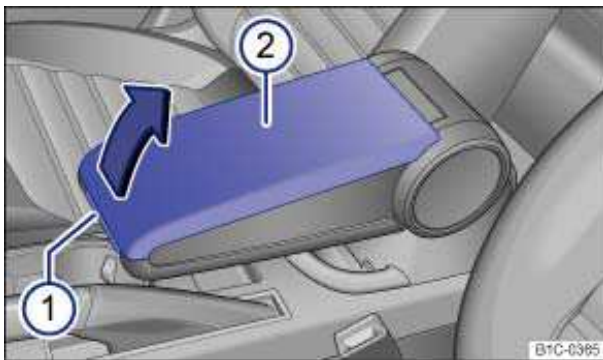

Fig. 84 Storage compartment in the front center armrest.
To *open*, push the release button ⇒ fig. 84 (1) and raise the cover (2) of the center armrest in the direction of the arrow.